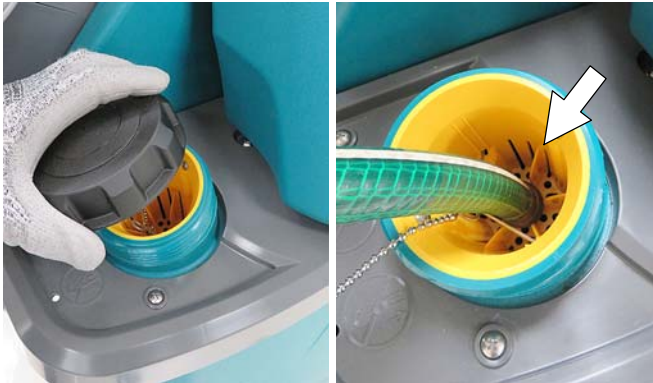

FIG. 22
1. Remove the cap from the solution tank. Insert the fill hose into the yellow strainer. The ribs at bottom of strainer will hold hose in place while filling (Figure 22).